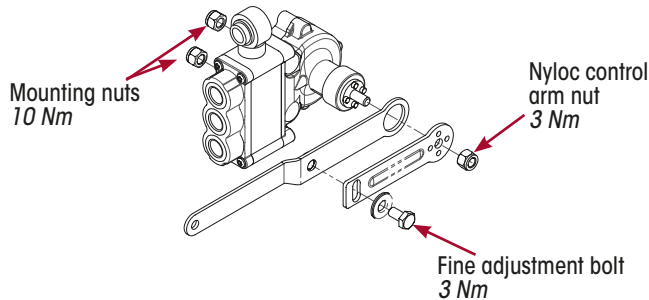

Figure 48: Height Control Valve Assembly Torque
2. Fasten the control arm to the height control valve shaft making sure the alignment identifier dimple on the cap is in the proper position for valve orientation. Apply a thread locking compound to the shaft thread and tighten the Nyloc nut to 3 Nm. Refer Figure 47, Figure 48 and "Haldex HCV Torque Specifications" on page 66.
6. If the height control valve has an adjustable arm, assemble the arm in the centre position and torque adjustment bolt to 3 Nm. Refer Figure 48 and "Haldex HCV Torque Specifications" on page 66.
22. Once the correct ride height is confirmed, ensure lever adjustment bolt is tightened to 3 Nm and the link rod nuts and locknuts are tightened to 10. Refer Figure 48 and "Haldex HCV Torque Specifications" on page 66.